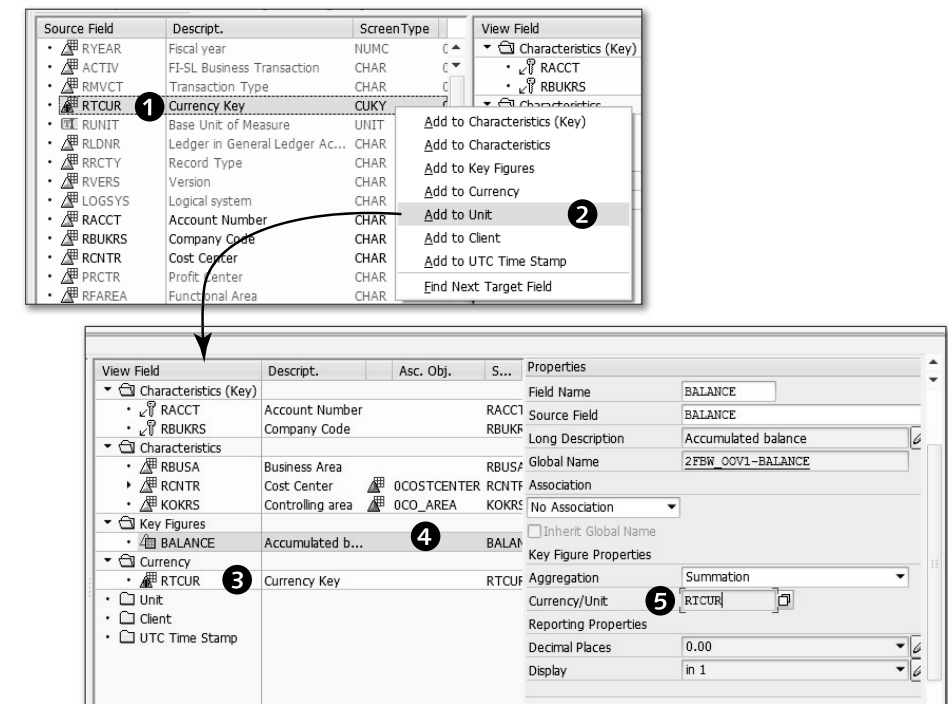

Figure 6.86 Adding to the Unit
First, you need to add the field for unit under the VIEW FIELD section. For key figure BALANCE, the field associated for unit is RTCUR. Select the RTCUR field ❶, and from the context menu, select ADD TO UNIT ❷ as shown in Figure 6.86. This places the unit RTCUR field under the VIEW FIELD section under CURRENCY ❸. Now select the BALANCE field from the VIEW FIELD section ❹. Open the PROPERTIES section for the BALANCE field, and enter "RTCUR" in the CURRENCY/UNIT field ❺. This action associates the unit RTCUR field with key figure BALANCE.